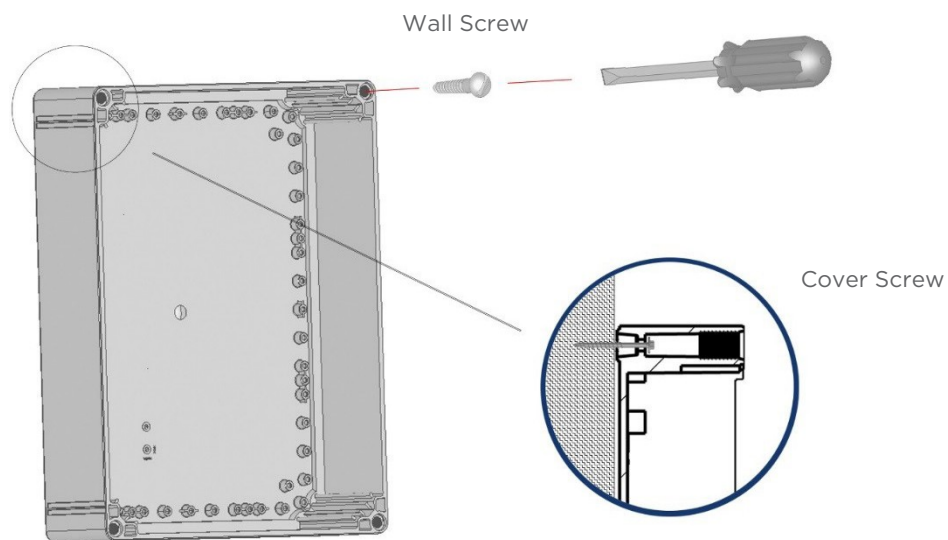

Figure 4.1: Mounting Instructions
1. Select a suitable wall location and use suitable rustproof screws to secure the Solar-Log 2050 unit to the support. Different anchors and screws for fitting the Solar-Log 2050 box are required depending on the support. Therefore, anchors and screws for mounting are not supplied (Figure 4.1).